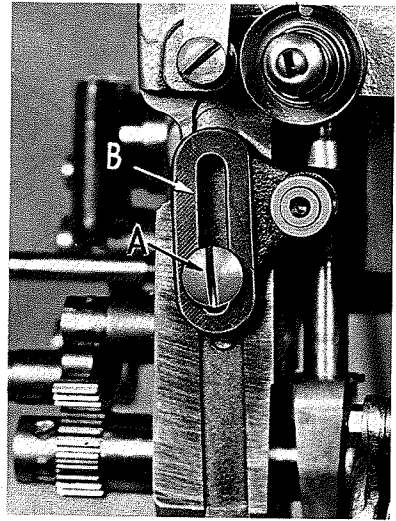

Fig. 16
The top feed should be synchronized with the bottom feed. If the setting is incorrect, loosen screw (A, Fig. 16) and move the slide (B) up to lengthen the stitch or down to shorten the stitch.